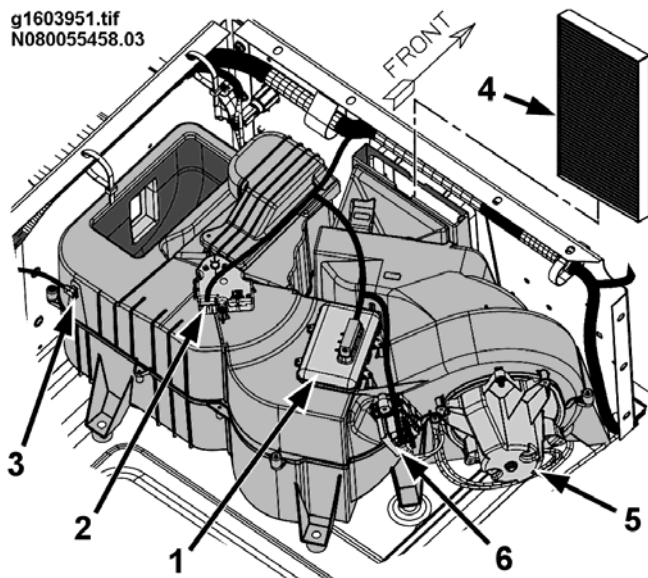
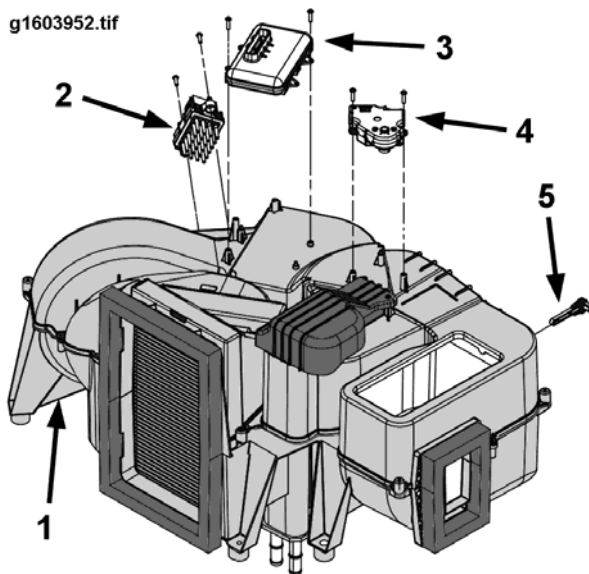

Figure 51 Rear HVAC Unit Component Locations
Figure 52 Rear HVAC Unit Component Mounting
NOTE – Refer to Figure 51 while performing the following Remove and Install procedures.
2. Through the passenger side access door, disconnect blower electrical connector from linear power module (6, Figure 51).
4. Remove blower (5).
2. Remove filter element (4, Figure 51) from the cavity in the rear HVAC unit.
NOTE – Refer to Figure 51 and Figure 52 while performing the following Remove and Install procedures.
2. Disconnect the electrical connector to the outlet duct temperature sensor (5, Figure 52).
3. Remove 2 Torx head screws securing LPM (2, Figure 52) to rear HVAC unit.
3. Disconnect the electrical connector on the blend door actuator (2, Figure 51) on the top of the rear HVAC unit.
4. Remove the 3 screws securing the blend door actuator to the rear HVAC unit. Remove the actuator (4, Figure 52).
3. Disconnect the electrical connector from the rear HVAC controller (1, Figure 51).
5. Remove controller (3, Figure 52).